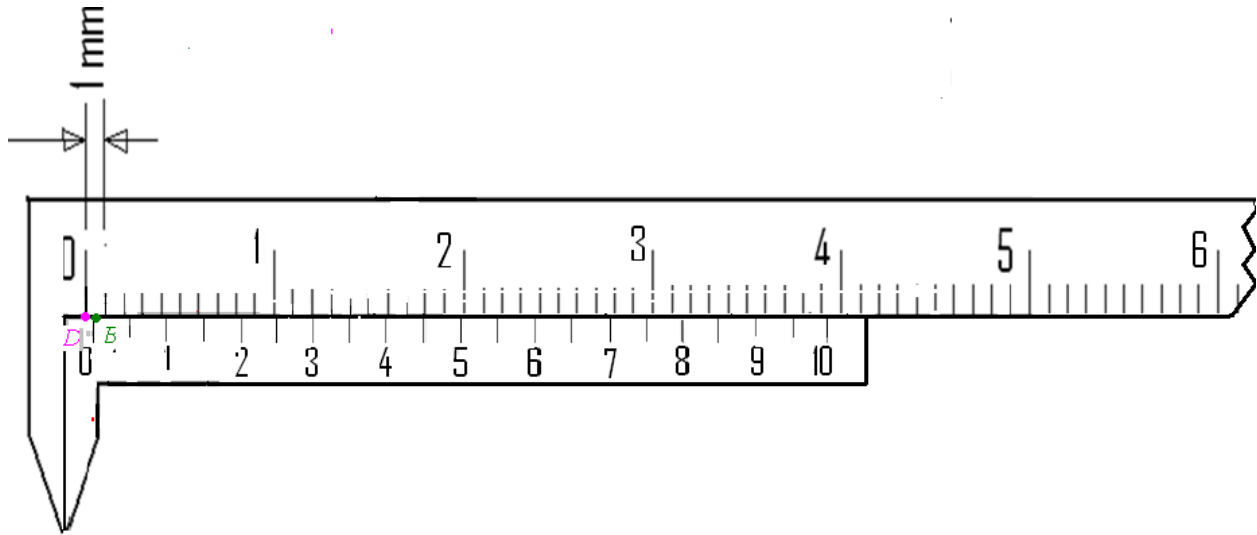

Figure 4: A slide calipers with mechanical error, where 0 of Vernier scale lies at right of the 0 or main scale.
In figure 4 we see the 0 of Vernier scale (B) lies at left of the 0 of main scale (D). We have to subtract this distance BD from the measured length of any body to correct it.